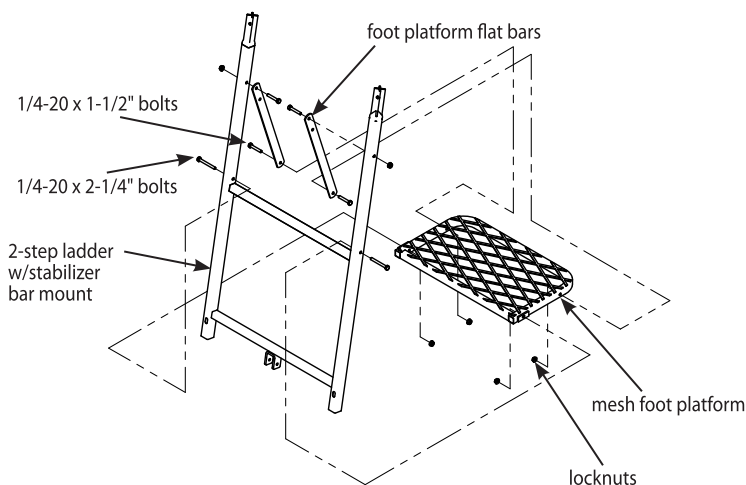

Figure 1
1. Attach the foot platform (1ML61), mesh side up, to the 2-step ladder section w/ stabilizer bar mount (SL64) using (2) provided 1/4-20 x 2-1/4" bolts and locknuts. **SEE FIGURE 1. DO NOT tighten all nut & bolt assemblies completely!**
2. Attach the foot platform flat bars (AL7) to the foot platform and to the inside of top ladder section side rails using (4) provided 1/4-20 x 1-1/2" bolts and locknuts. **SEE FIGURE 1.**